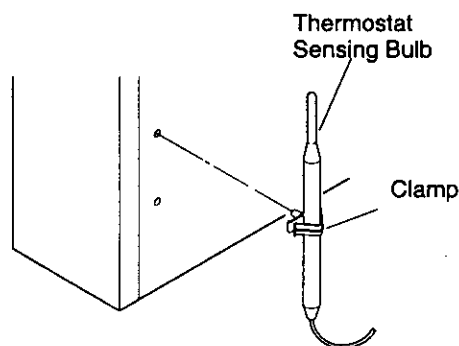

Figure 11 - Attaching Thermostat Sensing Bulb
2. Place clamp on thermostat sensing bulb as shown in Figure 11. Clamp is provided in hardware package.
3. Snap clamp into upper mounting hole as shown in Figure 11. Mounting hole is located on lower left edge on back of heater. Make sure the thermostat sensing bulb is pointing up.